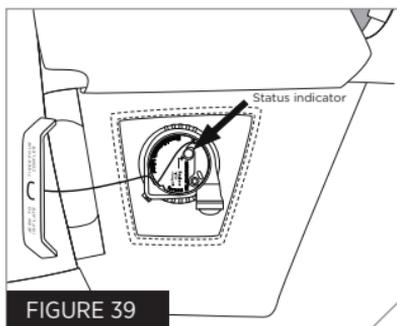

FIGURE 39
6. Ensure the single point status indicator is green (Fig. 39).